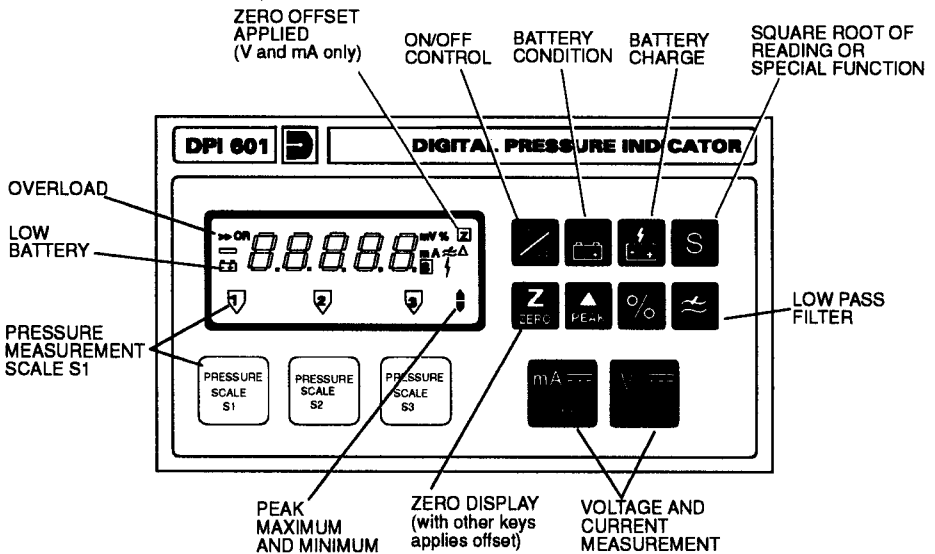

Figure 3, Key-pad and Display
**3.2 Key Functions (Figure 3)**
## **4 CALIBRATION (Figures 3 and 4)**